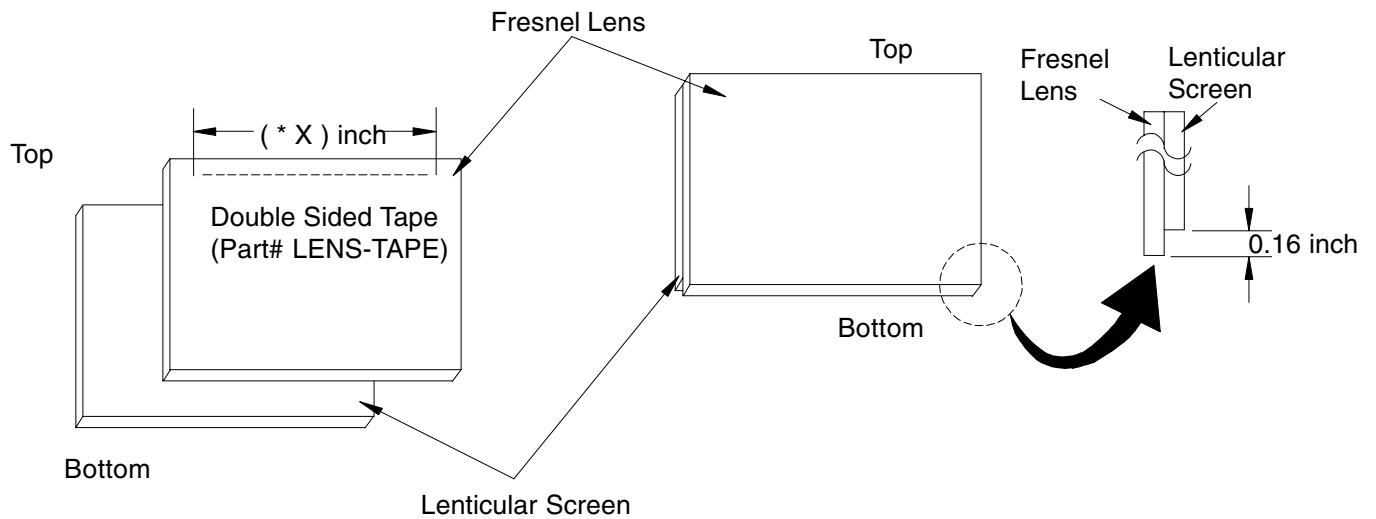

Figure 3-2
1. Apply double coated tape (Part # LENS-TAPE) along the top front edge of the Fresnel Lens as shown in figure 3-2. Refer to Table A for proper tape length.
2. Place the Fresnel Lens on top of the Lenticular Screen and apply pressure at the top edge to bond them together as shown in figure 3-2.